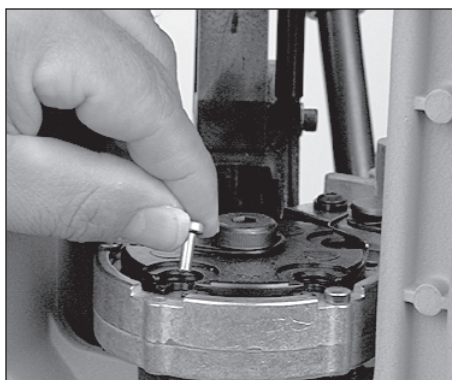

FIG 128
3. Installation of the Locator Buttons FIG 128: